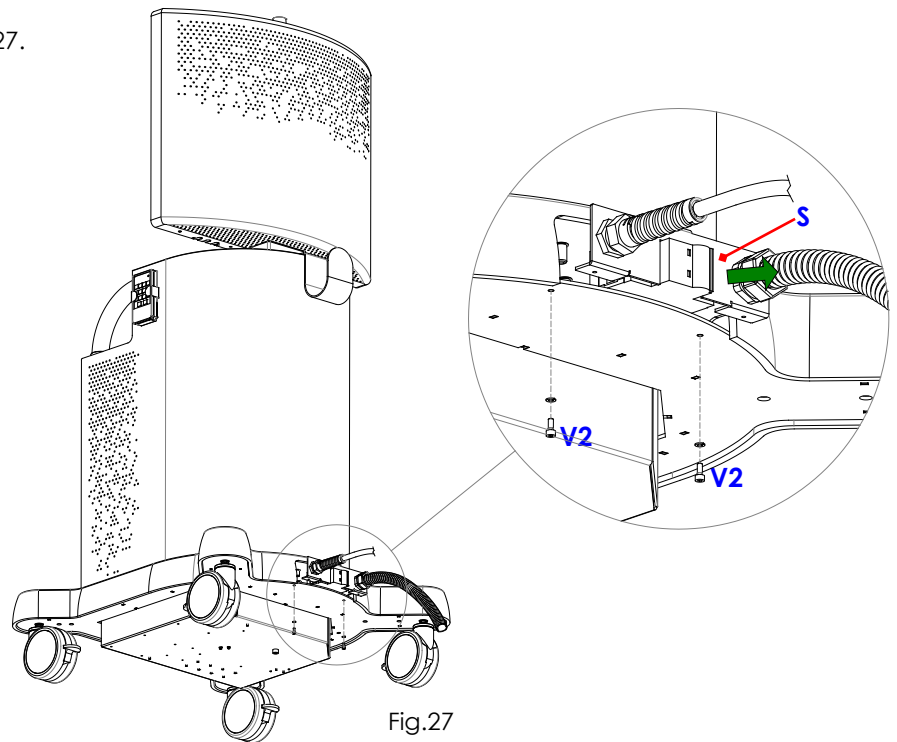

Fig.27
- Undo the 2 screws (**V2**) and then remove the cable holder (**S**), Fig.27.